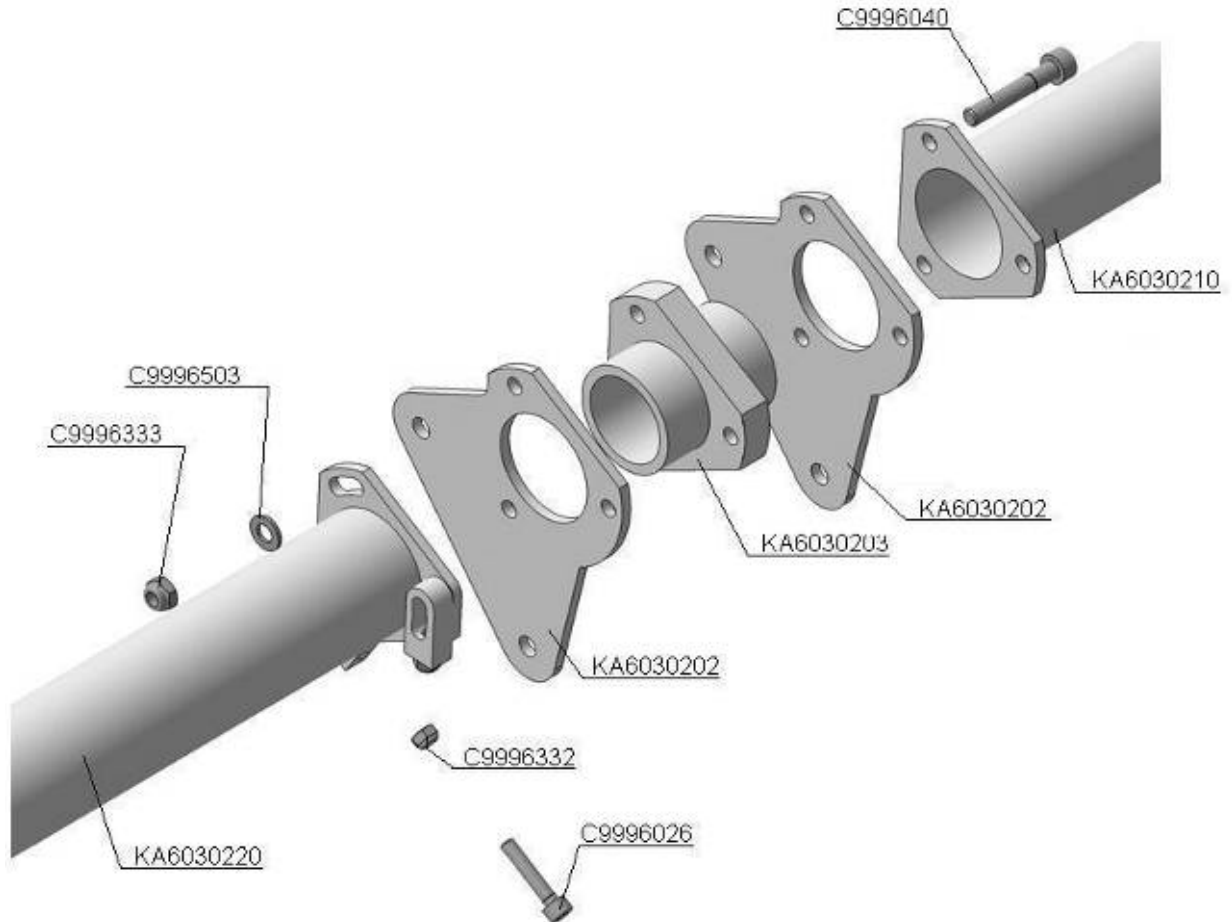

Fig. 27-50-7
B. Rigging of “Zero” Position of the Flaps (Fig. 27-50.7)